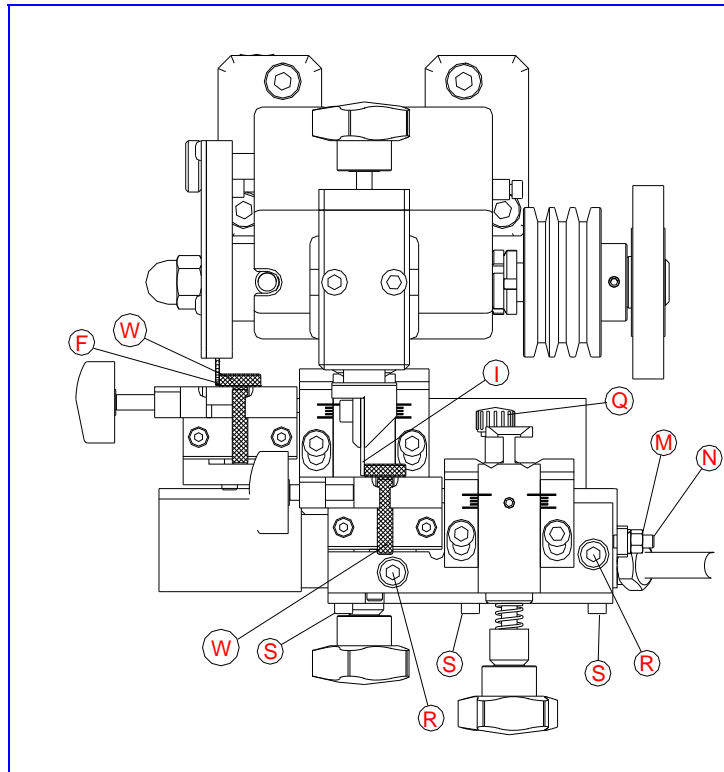
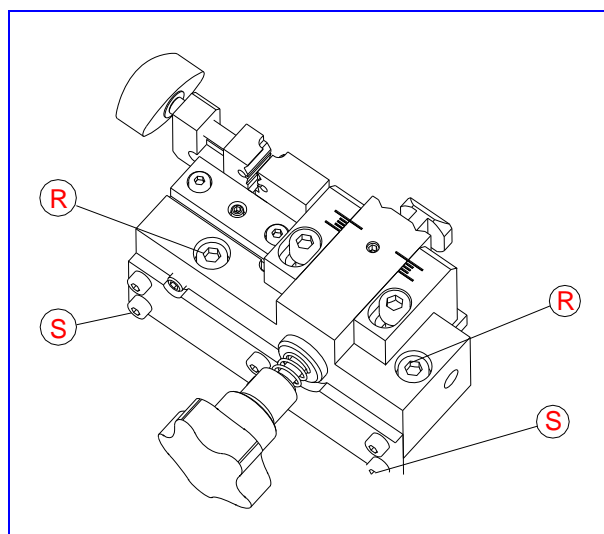

Fig.15
Fig.16
- Put the two adjustment rods (W) into the clamps, as shown in Fig 15. Move the rod (Q) forward so that the clamp is in the correct adjustment position.
- Bring the clamps with the adjustment rods (W) towards the tracer point (I) and the cutter (F), so that the adjustment rods rest on the tracer point and the cutter.
- Undo the screws (R, S), setscrew nut (M, N) and using a plastic mallet gently tap the sides so that it coincides with the adjustment piece. See Fig 16.